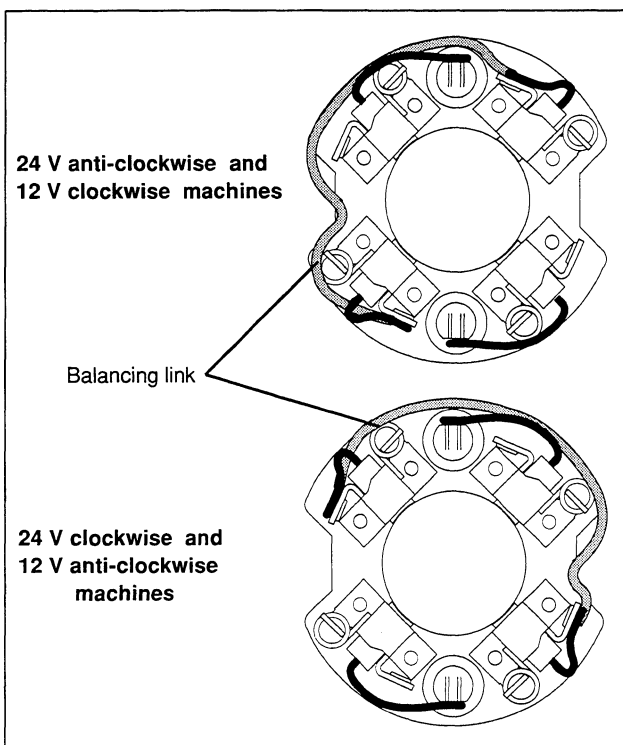

Fig. 13 Brush Connections
- (v) Ensure that the balancing link is in position. The brush tags must be connected in one of the two arrangements shown in Fig. 13, dependent upon the voltage and direction of rotation of the starter. The two screws (31) secure the relevant brush